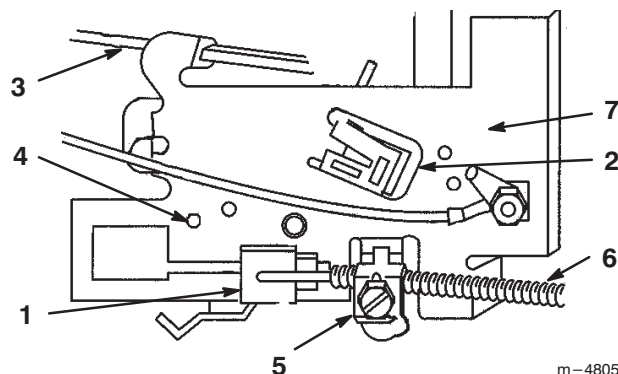

Figure 7
1. Place throttle control lever in FAST position.(Fig. 7).
2. Hook wire Z-bend into hole of control plate slide (Fig. 7).
3. Loosen cable clamp screw allowing cable installation, but do not tighten (Fig. 7).